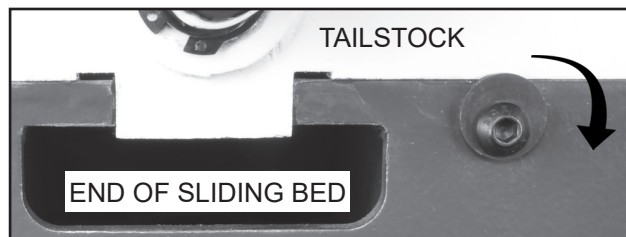

FIG. 5
- At the right end of the Sliding Bed, with a 5mm hex wrench loosen the Bolt (C25) so that the offset Stop Washer (C7) swivels down below the bed surface. Fig. 5.